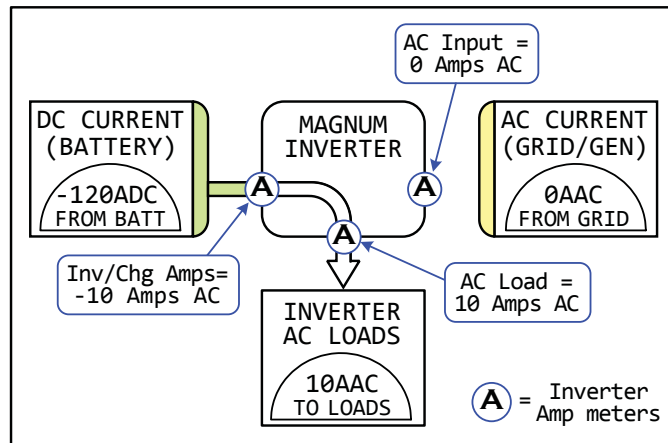

Figure 3-6, Current Flow – Inverter Mode
- ◇ Invert mode example: 0A (input amps) minus -10A (inverter amps) = 10A (load amps), see Figure 3-6. A load amps value of 10A means $10A \times 120V = 1200W$ load on the inverter.